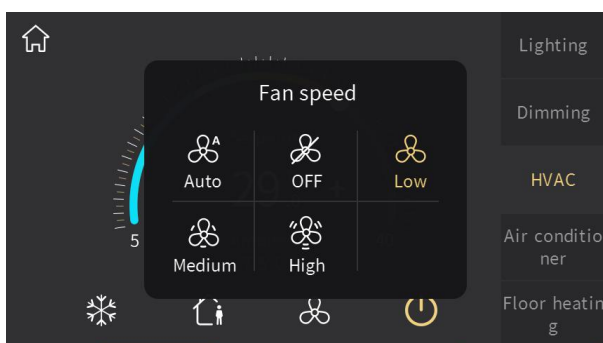

Fig.2.3.3
⑧ This icon indicates the uncertain status of Heating/Cooling;
⑨ Enter the fan speed setting by touching this area, and will pop up a sub-window shown as Fig.2.3.3;